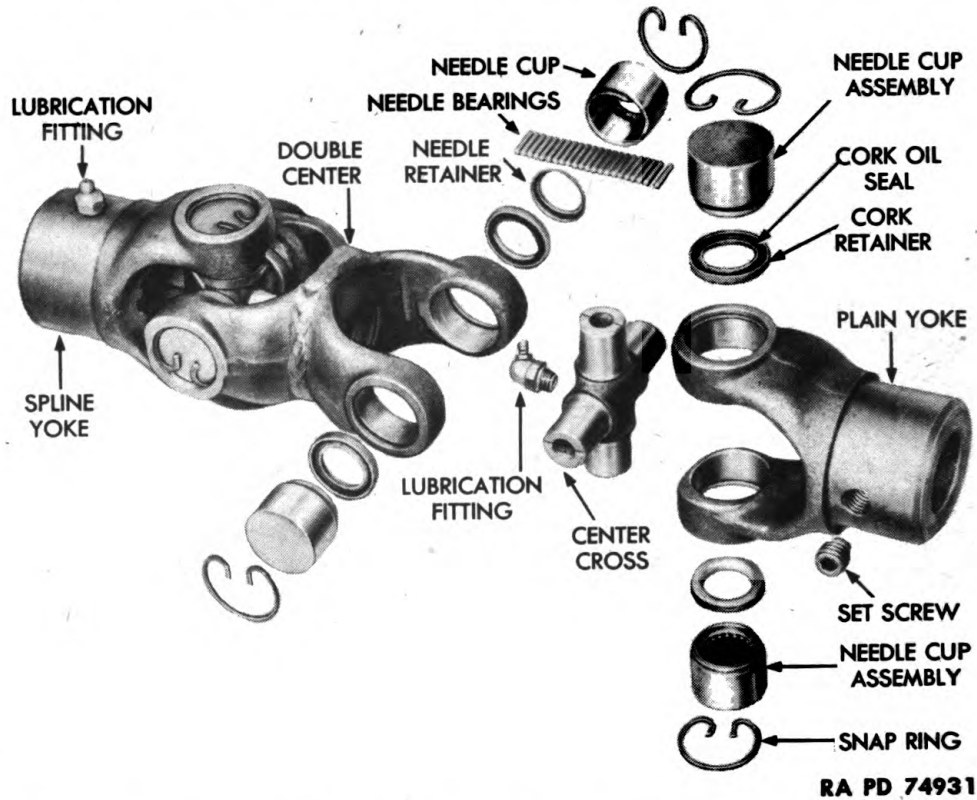

Figure 49 — Tandem Winch Drive Shaft Universal Joint — Disassembled
a. Disassembly (fig. 49). Remove set screw with socket head wrench (screw holds plain yoke on drive shaft), then remove lubrication fitting from spline yoke. Pry eight snap rings out of two center crosses (both joints). Press on center cross in such a way that needle cup is pushed outward and can be removed, then remove eight needle cup assemblies. Remove retainers from needle cup assemblies, and
c. Assembly (fig. 49). Install eight new cork oil seals and cork retainers on arms of two center crosses. Install center crosses so that they join double center, plain, and spline yokes together. Place a coating of grease in needle cups, install needle rollers in cups, then install retainers in cups. Carefully force needle cup assemblies on ends of center crosses, and fasten in place with retainers. Install set screw in plain yoke.